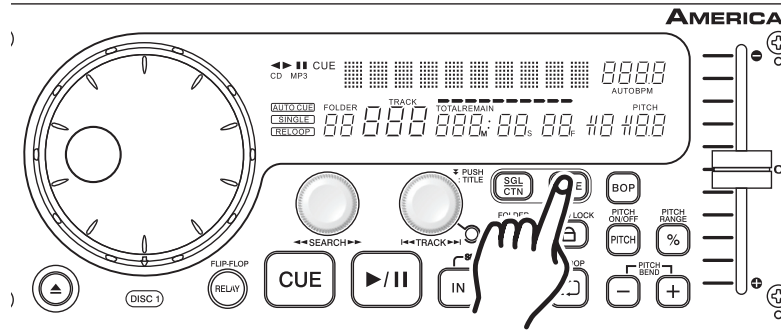

Figure 21
DURING NORMAL PLAYBACK, pressing the *TIME BUTTON* (8), will change the time display information (49, 50, 51, & 47) in the *VFD* (2) see figure 21. The following is a break down of the time settings and their definitions:
- 2) **REMAIN** (48) - This describes the time in the VFD (49, 50, & 51) as the current TRACKS remaining running time.
- 3) **TOTAL REMAIN** (52) - This describes the time in the VFD (49, 50, & 51) as the disc total remaining running time. **NOTE: TOTAL REMAIN can only be seen or used when an actual cd is loaded, it does not work with a Mp3 cd.**
**TIME BAR INDICATOR** - Details the time defined in the *TIME METER* (49, 50, & 51) as a visual bar icon. As with the *TIME METER* (49, 50, & 51) this bar is also dependent on the selected time function *REMAIN* (48). This bar will begin to flash when a track is ending regardless of which time function you are in. Use the flashing bar as a visual reminder that a track is ending.